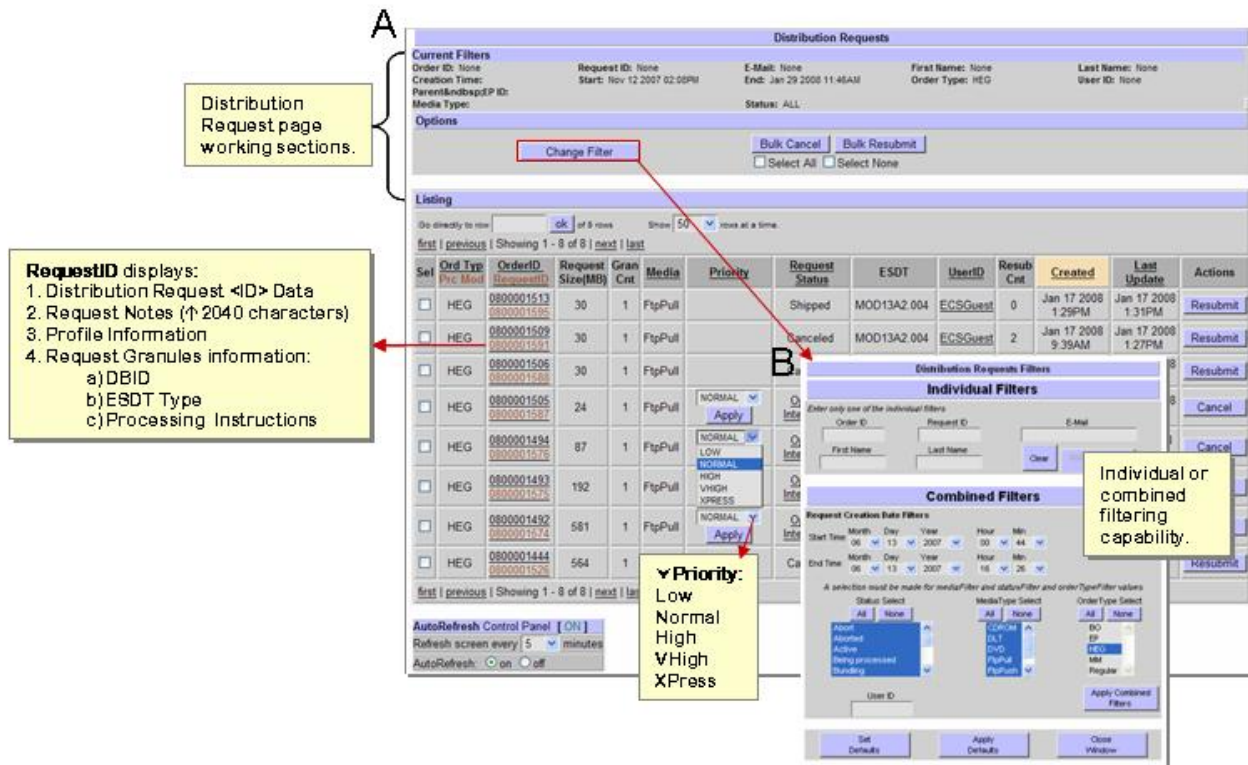

Figure 15.6-20. Distribution Requests Page and Filter Window
- The **Distribution Requests [filter]** page (Figure 15.6-20, Frame A) displays.
- 1 - **Current Filters** – displays data (Figure 15.6-21, Frame 1) by the set of pre-defined criteria specified (Figure 15.6-20, Frame B) by the Operator.
Click the **Change Filter** button, in the **Options** area (Figure 15.6-20, Frame A).
- 1 - **Individual Filters** – displays limited options (Figure 15.6-20, Frame B) to set a defined criterion specific to a request (Figure 15.6-20, Frame B). Those options are:
- 2 - **Combined Filters** – has several options (Figure 15.6-20, Frame B) to allow operator to combine multiple criteria to define the filter.